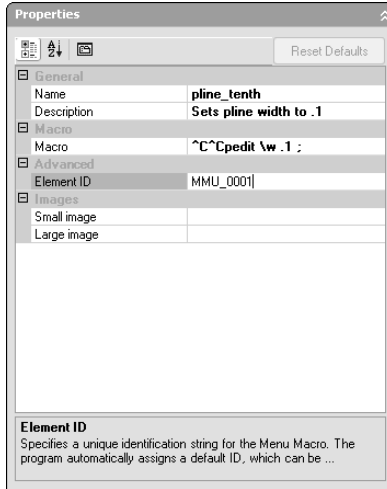

Figure 29-9: The completed Properties pane for the custom command.
14. Complete the Properties pane as shown in Figure 29-9. Type the macro as follows after the `^C^C` (which is already there), being careful to also include the spaces: